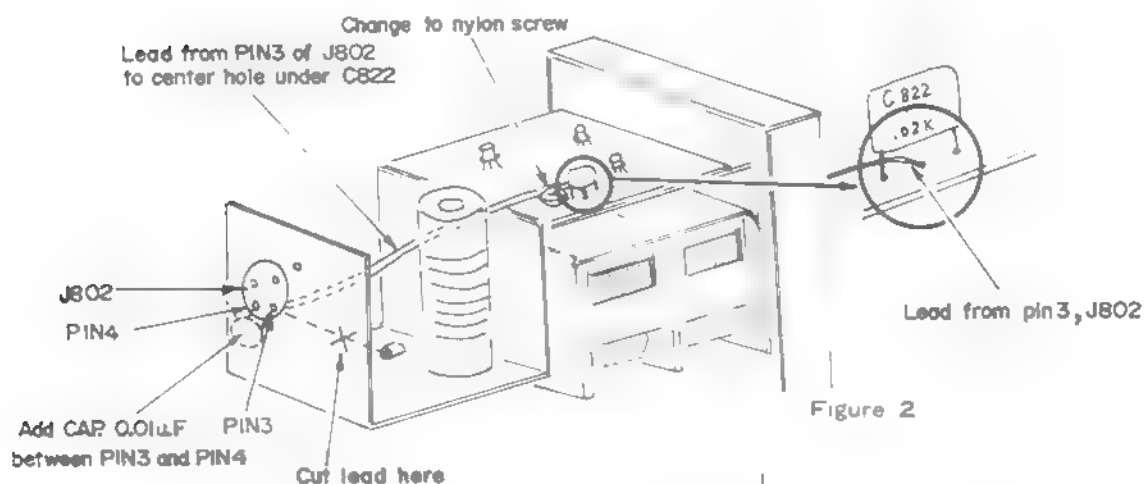

Figure 2
- (2) Refer to Fig. 2, and remove the ground lead from pin 4 of J802. Re-route the lead so that the connection is from pin 4 of J802 to the center hole under C822.
- (3) Change the screw adjacent to C822 to a NYLON screw.
- (4) Add a new 0.01 disc ceramic capacitor between pins 3 and 4 of J802.
- (5) Install a new ground lead, made from a heavy braided wire of 100-120 mm length. This lead should run from the VFO compartment to the ground lug for the XTAL UNIT, as shown in Fig.